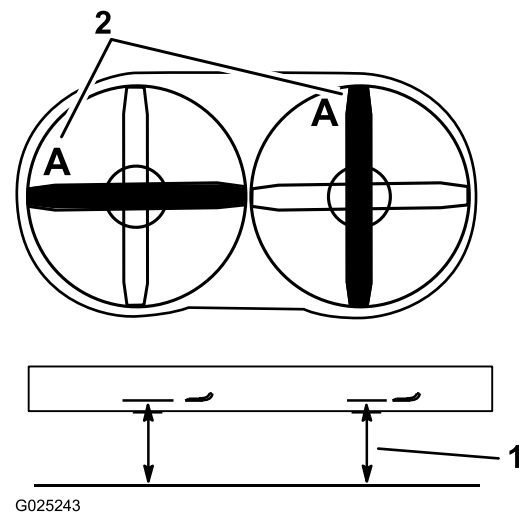

Figure 62
3. Rotate 1 blade as shown in Figure 62.
4. Measure from a level surface to the cutting edge at position A of the blade (Figure 62). Note this dimension.